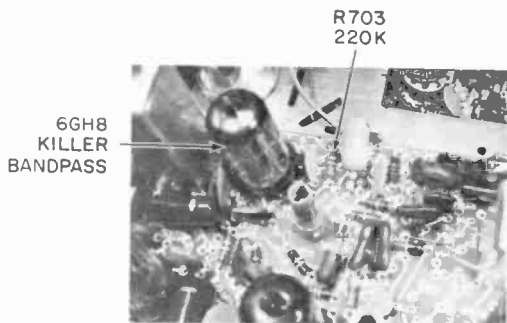

Fig. 618—Use R703 as test point for killer voltage.
1. Fig. 618 is a repeat of the picture from Chapter 3 showing R703, the 220K resistor which is the most convenient access to the killer voltage applied to the grid of the 6GH8 chroma i.f. tube.